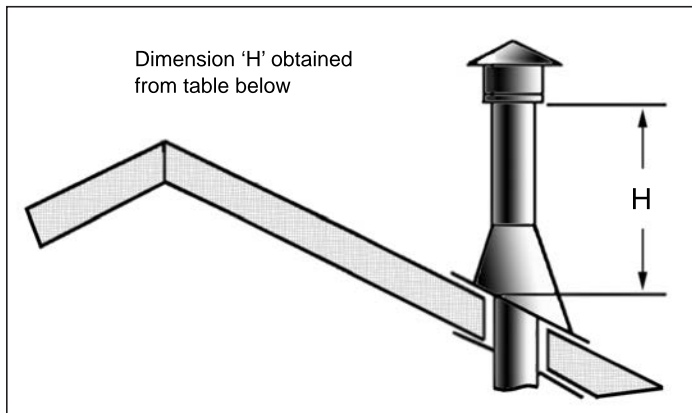

Figure 39: Height of Vertical Termination; Reference Table 7.
- STEP 8.** Continue to add pipe sections until the height of the vent cap meets the minimum code requirements. Refer to Figure 39 and Table 7. Note that for steep roof pitches, the vent height must be increased. In high wind conditions, nearby trees, adjoining roof lines, steep pitched roofs, and other similar factors can result in poor draft, or down drafting. In these cases, increasing the vent height may solve the problem.
Table 7: Minimum 'H' for Figure 39.